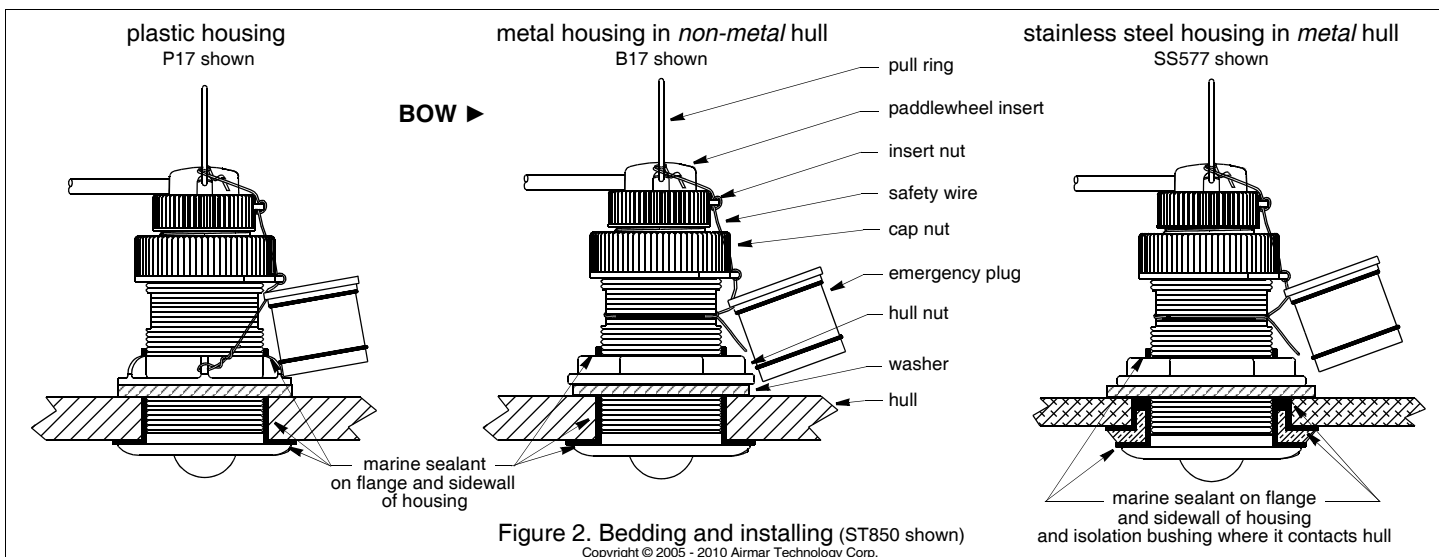

Figure 2. Bedding and installing (ST850 shown)
Apply a 2mm (1/16") thick layer of marine sealant around the flange of the housing that will contact the hull and up the sidewall of the housing (see Figure 2). The sealant must extend 6mm (1/4") higher than the combined thickness of the hull, washer, and hull nut. This will ensure there is sealant in the threads to seal the hull and to hold the hull nut securely in place.
1. From outside the hull, push the housing into the mounting hole using a twisting motion to squeeze out excess sealant (see Figure 2). Align the arrow on the flange of the housing to point forward toward the bow. If the sensor is not installed on the centerline, angle the housing slightly toward the centerline to align it with the water flow.
- Always attach the safety wire to prevent the insert from backing out in the unlikely event that the insert nut and/or cap nut fails or is screwed on incorrectly (see Figure 2).
3. Remove the paddlewheel/temperature insert from the housing by removing the safety wire from the pull ring and the INSERT nut. Unscrew the INSERT nut (see Figure 2). *Do not remove the CAP nut.*
6. Reattach the safety wire to prevent the *long* blanking plug from backing out in the unlikely event that the insert nut and/or cap nut fails or is screwed on incorrectly (see Figure 2).
1. Remove the short emergency plug from the safety wire (see Figure 2).
5. Secure the short emergency plug with the cap nut. **Hand tighten** only. Do not over tighten. Reattach the safety wire (see Figure 2).
10. Attach the safety wire to the short emergency plug, the cap nut, the insert nut, and the pull ring to prevent the insert from backing out in the unlikely event that the insert nut and/or cap nut fails or is screwed on incorrectly (see Figure 2).